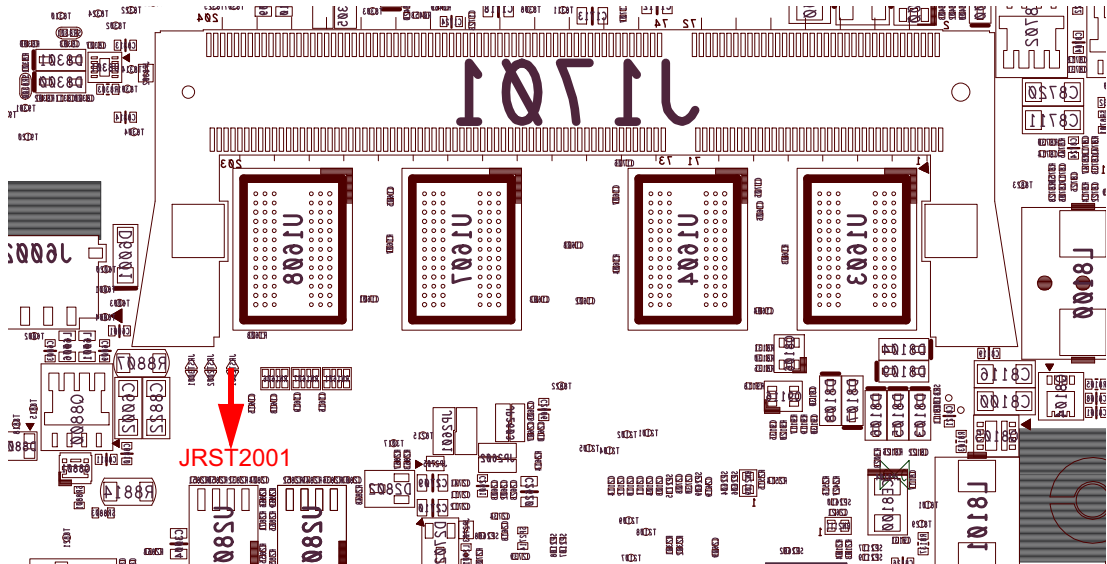

Figure 5-3. CMOS Jumper
4. Locate the RTCRST# jumper (Figure 5-3).